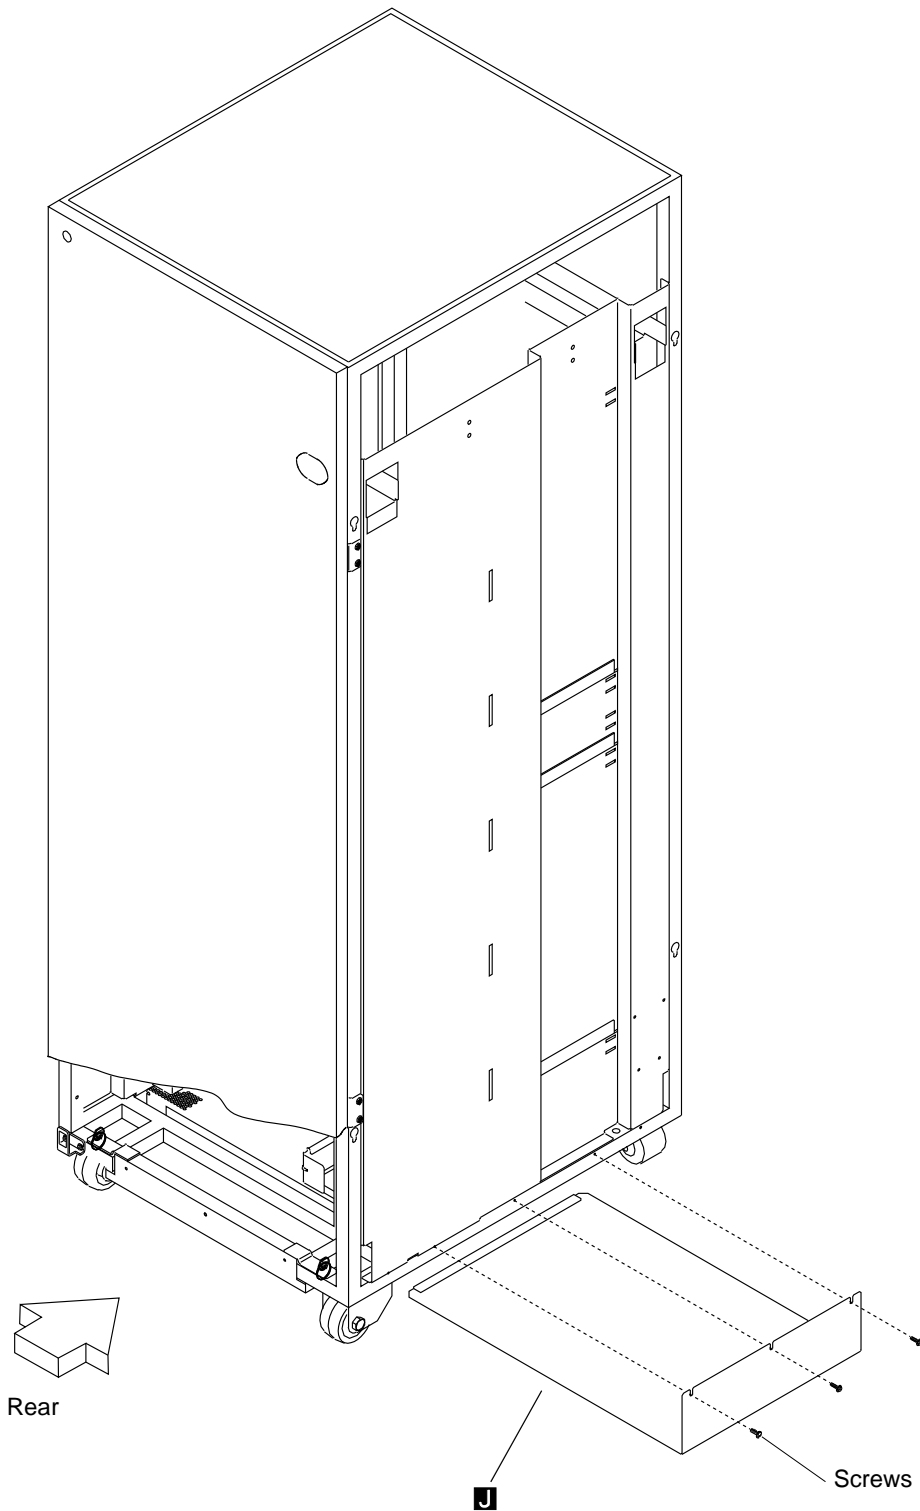

Figure 6-7. Ground Plate on an Intermediate 3746-L Unit (Rear View)
- Panel **J** is used on an intermediate 3746-L unit. See Figure 6-7 on page 6-9.
The following figure (Figure 6-7) shows the ground plate that must be fastened to the 3746-L13 when a 3746-L14 is installed, and to the 3746-L14 when a 3746-L15 is installed.